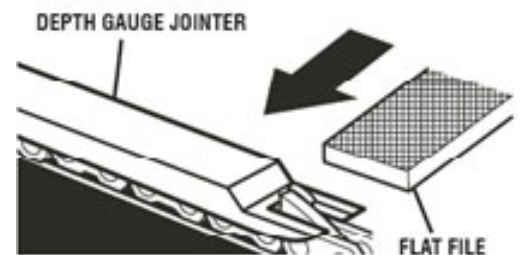

Figure 29
6. Position the Depth Gauge Jointer (**Figure 29**) onto the top of the cutters, with a Depth Gauge in the slot at the end of the jointer.